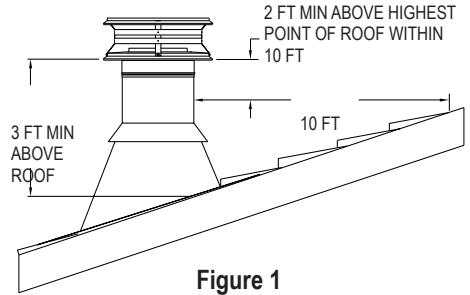
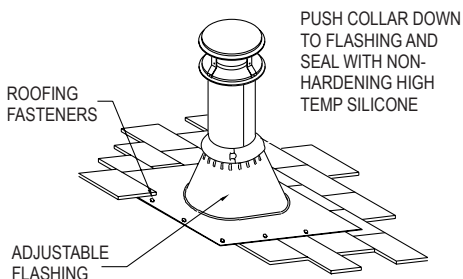

Figure 1
Figure 15
The National Fire Protection Association Standard #211 states: "Chimneys shall extend at least three feet above the highest point where it passes through the roof of a building, and at least two feet higher than any portion of a building within ten feet." (**Fig.1**) DuraTech Chimney may be installed up to 60 feet high. If the chimney extends more than 5 feet above the roof, an Extended Roof Bracket must be used (see page 12). Due to the overlap of the joints, subtract 1-1/4 inches from each Chimney Section's height to calculate installed height.
10. Attach Flashing: In new construction, assemble the Chimney Sections to a point above the roof, then slip the Flashing over the chimney. On an existing roof, center and install the Flashing before extending the chimney above the roof. Allow space to permit sliding the next Chimney Section up through the Flashing. Always insure the chimney remains vertical (use a level), and that at least a 2" clearance to combustible materials is maintained all around. Install the upper edge of the Flashing under the roofing. Nail to the roof along the upper edge and down each side with 1" roofing nails. Do not nail the lower edge of the Flashing (**Fig.15**). Seal top and upper sides of flashing with roofing compound or sealant. Be sure to follow local building practices, as needed. Seal all nail heads with a non-hardening waterproof sealant. On flat or tarred and graveled roofs, nail and seal the Flat Roof Flashing to the roof on all sides with roofing compound. Do not put screws through the Flashing into the Chimney Pipe.
11. Finish Top: Apply a high-temperature (500°F), non-hardening waterproof sealant around the chimney at the point where the Storm Collar will meet the chimney just above the Flashing (**Fig.15**). Slide the Storm Collar down over the chimney to the top of the Flashing. Tighten and seal the Storm Collar against the sealant. After installing sufficient Chimney Sections to meet the height requirement (**Fig.1**), attach the Chimney Cap onto the top of the chimney by holding the collar of the cap and twist locking it clockwise